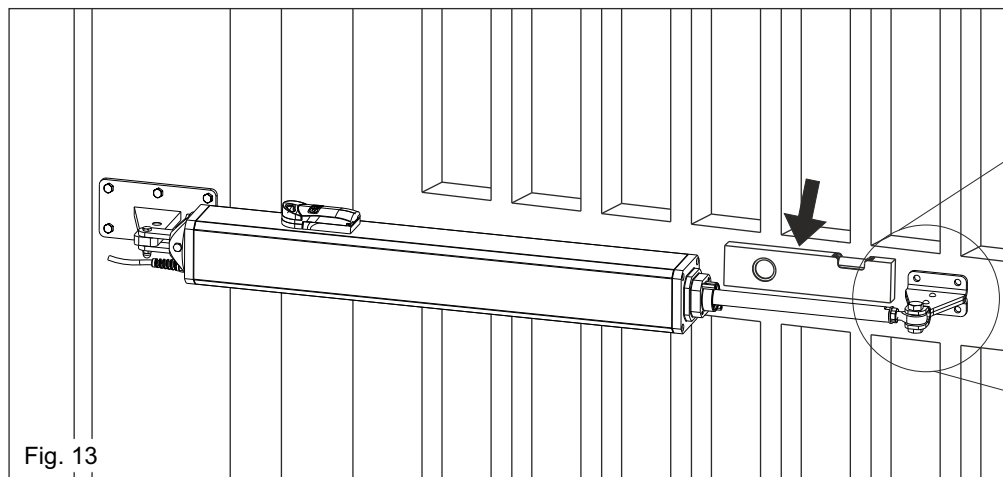

Fig. 13
The support must be positioned so that the operator is perfectly levelled (Fig. 12, Fig. 13).
4. Set the operator perfectly levelled and mark the position of the front bracket (Fig. 13).